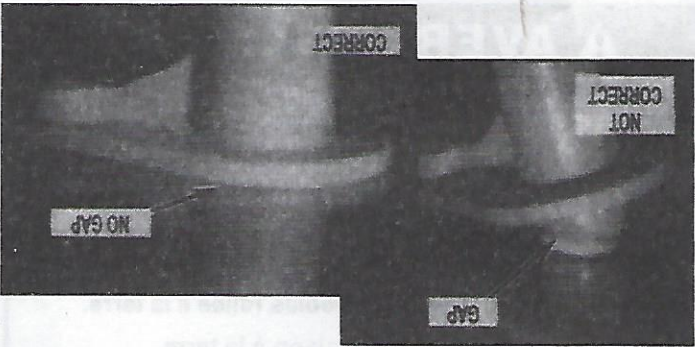

FIGURE 3
6. Align p-trap drain tube with drain spacer. Push on the p-trap drain tube until it touches the roof of machine compartment. See Figure 3.